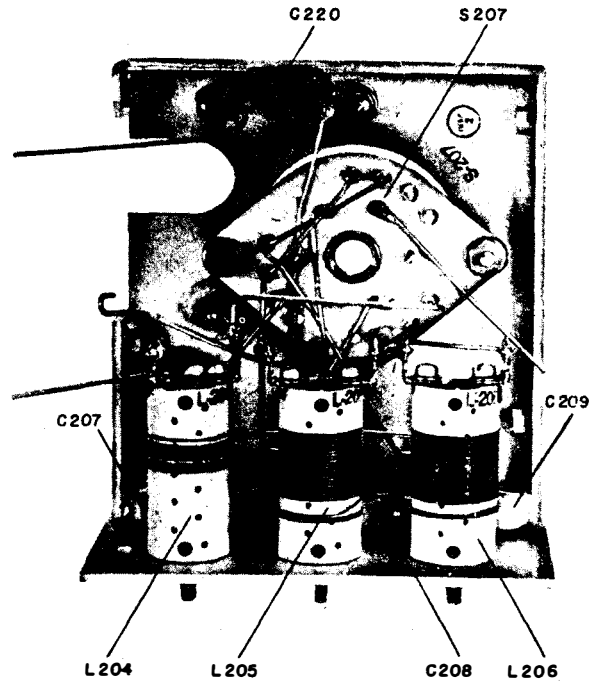

Figure 2-13 Converter Assembly, Side View
b. CONVERTER. (See figures 2-13, 2-14.)—A type 12SA7 pentagrid tube is employed as the converter V202. This tube is excited by a separate oscillator V203 except during periods of crystal-controlled operation. When crystal reception has been selected by the operation of the OSCILLATOR SELECTOR switch S202, a section of V202 operates as the oscillator to self-excite the converter. The full 225 volts are applied to the plate through the primary of the i-f transformer Z201 and screen voltage for the tube is obtained through the dropping resistor R205 in series with the plate-supply voltage. When the transmitter carrier is on, this screen voltage is removed from V202 by the operation of the carrier-control relay K103 in the transmitter. The AVC voltage is applied to the grid of the converter tube through the grid resistor R209.